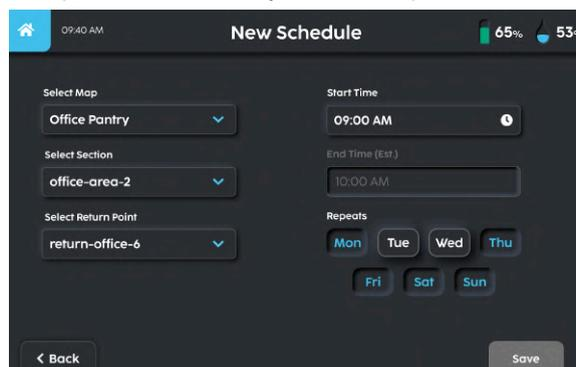

FIGURE 6-28
2. Click click 'Select Map' to choose a map to clean for this schedule (Fig. 6-28). Note that SC25 needs to have a map to create a cleaning schedule. To create a map, refer to 'ADD/CREATE NEW MAP'.